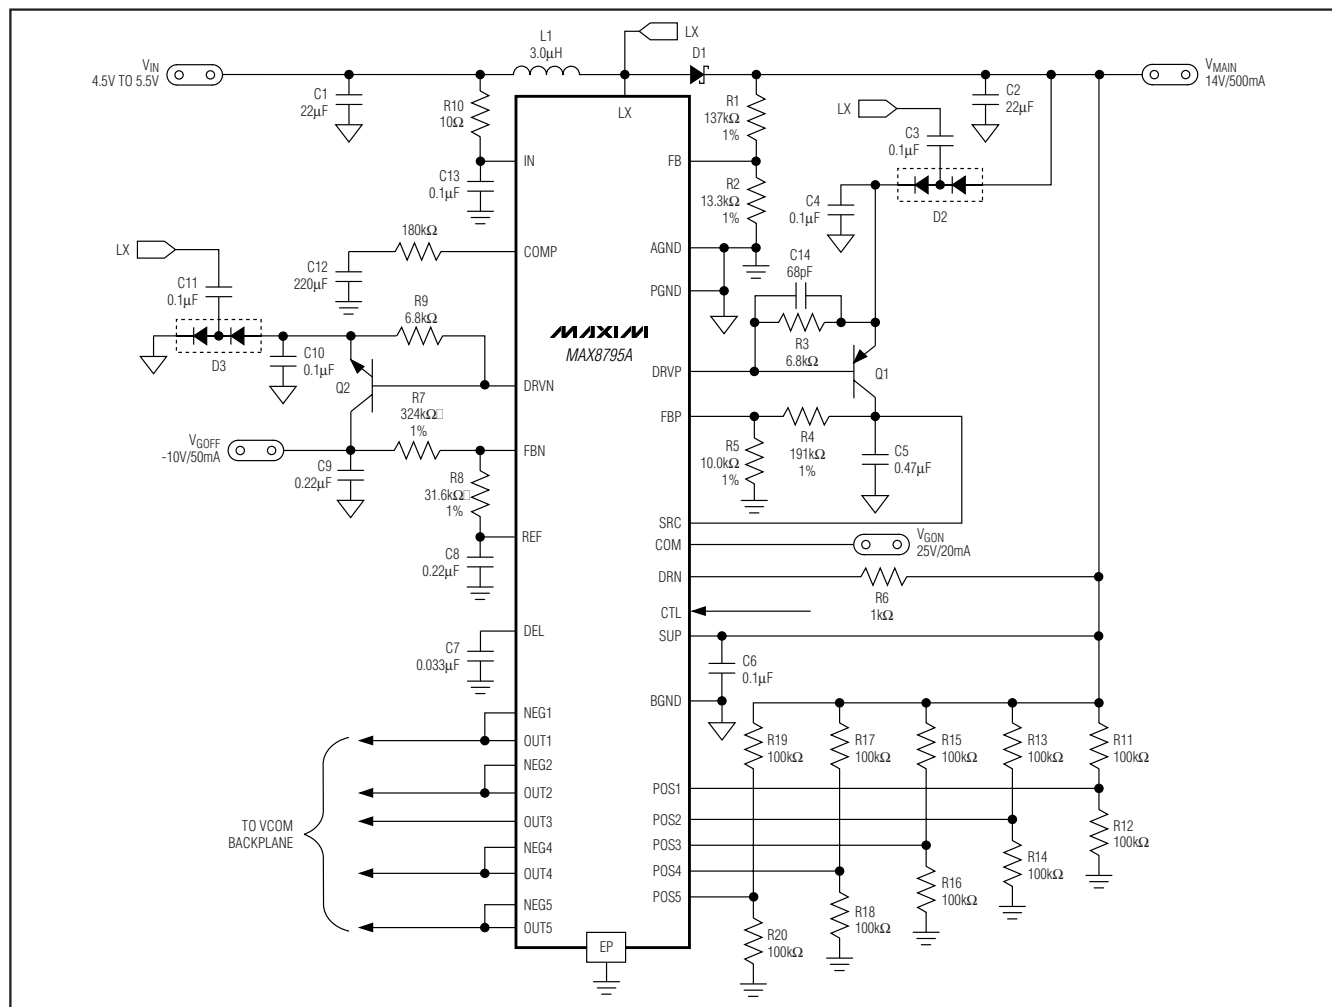

Figure 1. Typical Operating Circuit
(Circuit of Figure 1, $V_{IN} = 5V$, $V_{MAIN} = 14V$, $V_{GON} = 25V$, $V_{GOFF} = -10V$, $T_A = +25^\circ C$, unless otherwise noted.)
The MAX8795A typical operating circuit (Figure 1) is a complete power-supply system for TFT LCDs. The circuit generates a +14V source-driver supply and +25V and
-10V gate-driver supplies. The input voltage range for the IC is from +2.5V to +5.5V. The listed load currents in Figure 1 are available from a +4.5V to +5.5V supply. Table 1 lists some recommended components, and Table 2 lists the contact information of component suppliers.
The gate-on linear-regulator controller (REG P) is an analog gain block with an open-drain n-channel output. It drives an external pnp pass transistor with a $6.8\text{k}\Omega$ base-to-emitter resistor (Figure 1). Its guaranteed base-drive sink current is at least 1mA. The regulator including Q1 in Figure 1 uses a $0.47\mu\text{F}$ ceramic output capacitor and is designed to deliver 20mA at 25V. Other output voltages and currents are possible with the proper pass transistor and output capacitor. See the *Pass-Transistor Selection* and *Stability Requirements* sections.
The gate-off linear-regulator controller (REG N) is an analog gain block with an open-drain p-channel output. It drives an external npn pass transistor with a 6.8k Ω base-to-emitter resistor (Figure 1). Its guaranteed base-drive source current is at least 1mA. The regulator including Q2 in Figure 1 uses a 0.47 μ F ceramic output capacitor and is designed to deliver 50mA at -10V. Other output voltages and currents are possible with the proper pass transistor and output capacitor (see the *Pass-Transistor Selection* and *Stability Requirements* sections).
REG N is typically used to provide the TFT-LCD gate drivers' gate-off voltage. A negative voltage can be produced using a charge-pump circuit as shown in Figure 1. REG N is enabled after the voltage on REF exceeds 1.0V. Each time it is enabled, the control goes through a soft-start routine that ramps down its internal reference DAC from VREF to 250mV in 128 steps.